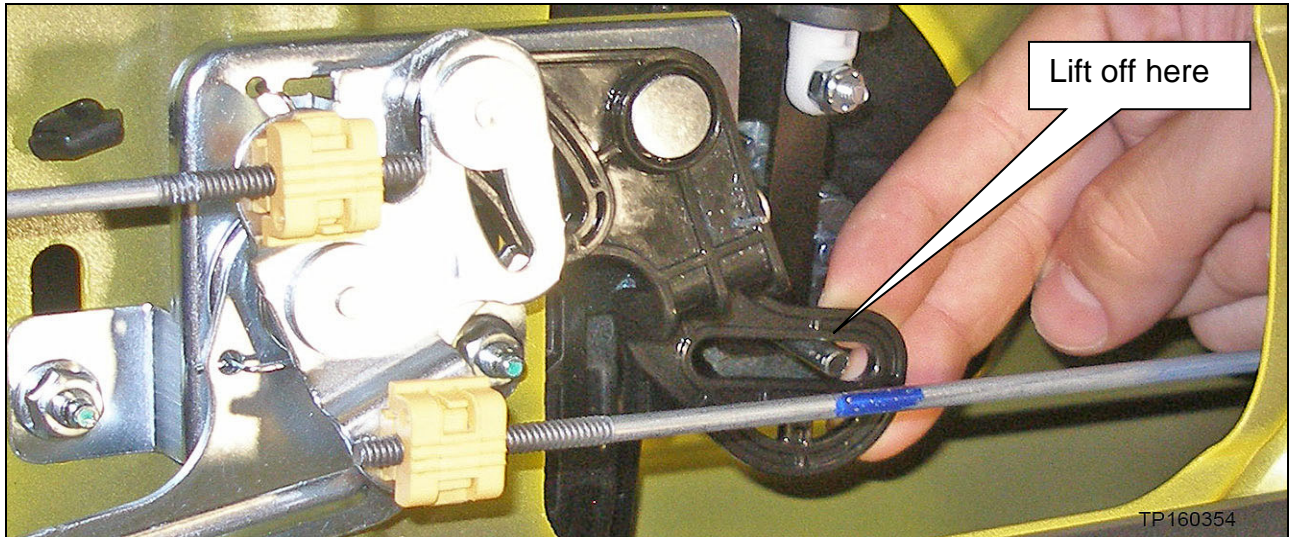

Figure 7
- a. Lift the latch arm off the pin as shown in Figure 7.